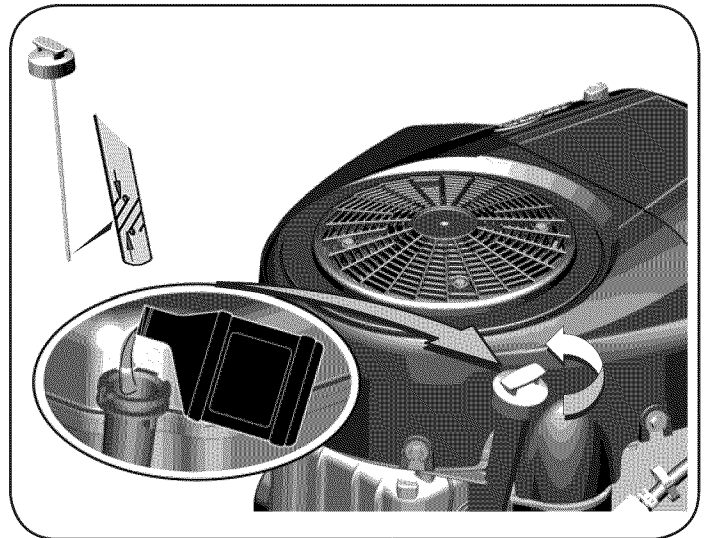

Figure 27
5. Remove the dipstick and check the oil level. It should be at the Full mark on the dipstick. See Figure 27.